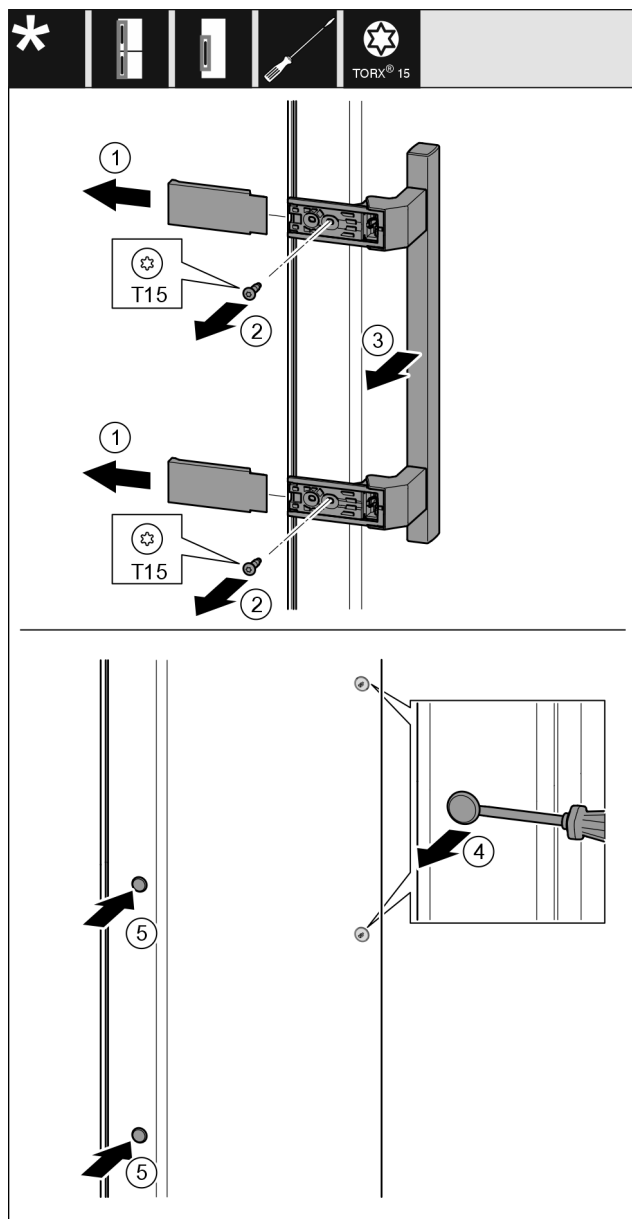

Fig. 35
- ▶ Remove the cover *Fig. 35 (1)*.
- ▶ Unscrew screws *Fig. 35 (2)* with screwdriver.
- ▶ Remove the handle *Fig. 35 (3)*.
- ▶ Use a slotted screwdriver to lift the side plug *Fig. 35 (4)* carefully and pull it out.
- ▶ Re-insert the plug *Fig. 35 (5)* on the other side.